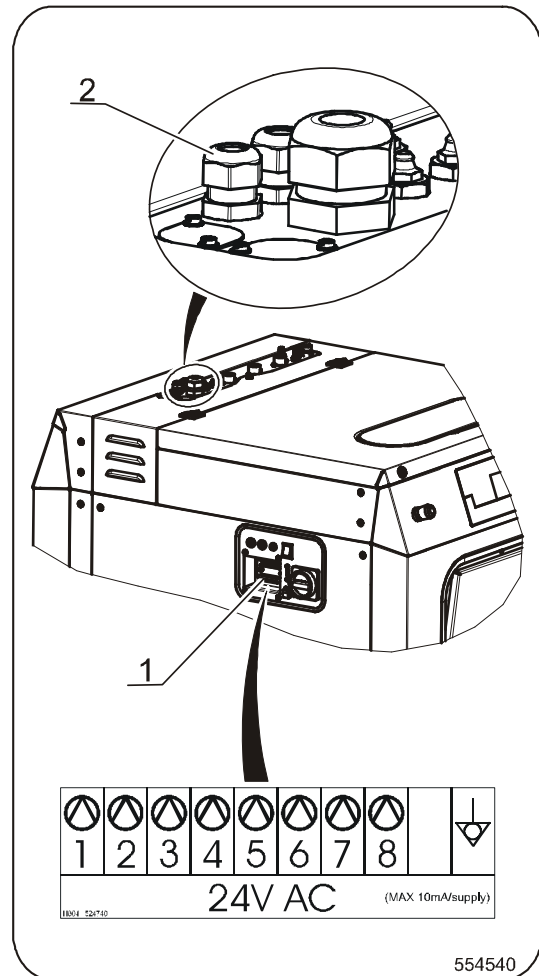

Figure 25
- For electric connection of supply control signals is available on the side of the machine the terminal box with LED signalization of activation of the respective pump, (see Figure 25., pos.1). At the terminal box there is a label for electric connection, Figure 25. Detail connection of signals could be also found on the electric scheme of the machine. Signals for supply pumps control are 24V AC. Maximum current for control circuits of pumps must be limited to 10mA. Lead the cable for connection of pumps control signals through the plastic cable bushing, pos.2. After connection of conductors to the respective positions of the connector "P" (screw clamps), fix up the cable by tightening the cable bushing) against disconnection and close the box with the cover. For details about liquid soap supply system programming, see Programming manual.